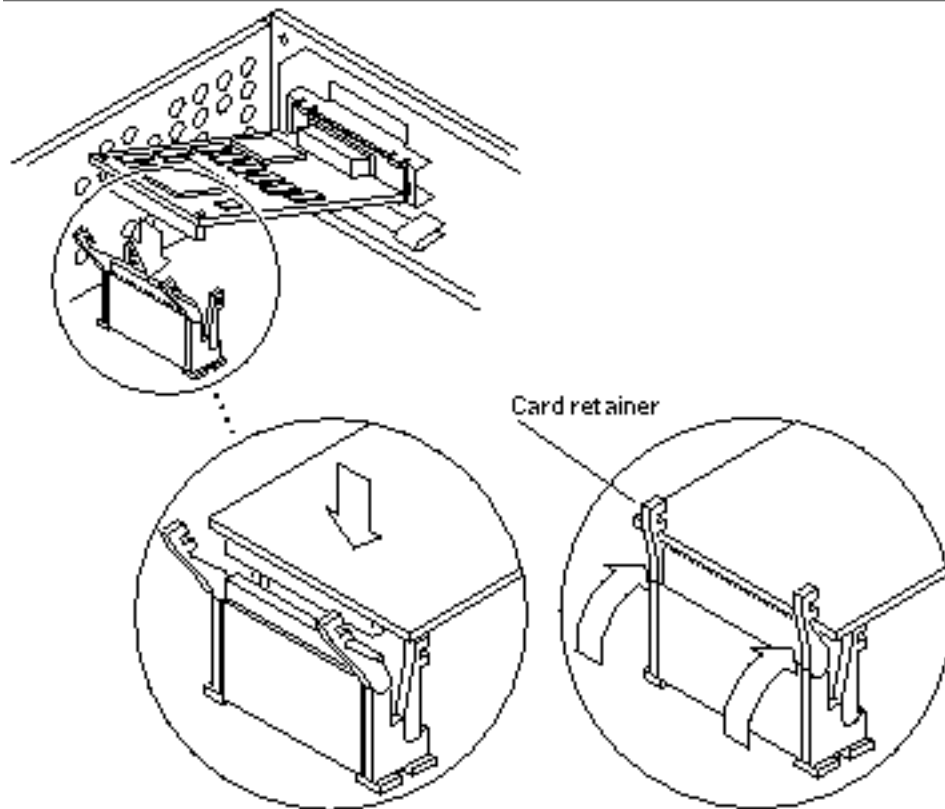
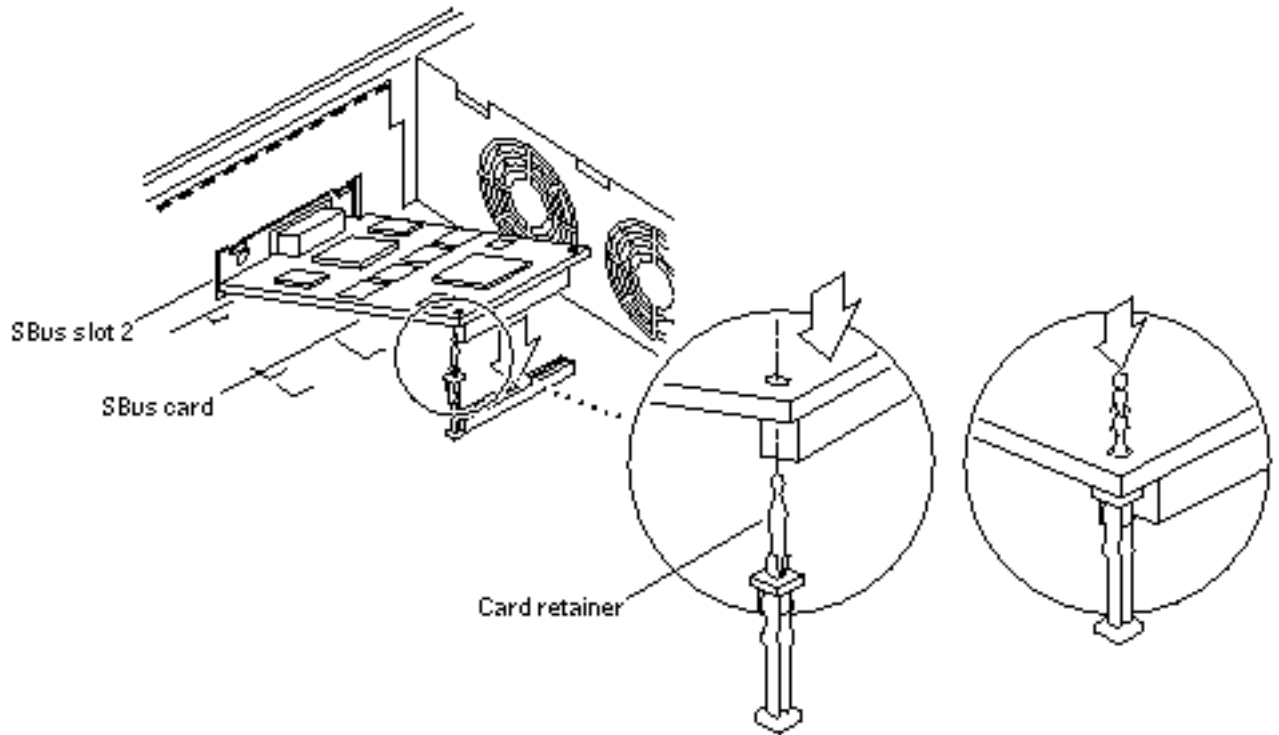

Figure 10-15 Lock in the SBus Card Retainers, SBus Slots 0 or 1
Figure 10-16 Lock in the SBus Card Retainer, SBus Slot 2
Do not force the card, or you may damage the pins on the card. If the SBus card is located in SBus slot 0 or 1, see Figure 10-15. If the SBus card is located in SBus slot 2, see Figure 10-16.
- If the SBus card is located in SBus slot 0 or 1, push the rear card retainers forward over the edge of the SBus card. See Figure 10-15.
See Figure 10-16. There is only one card retainer for the SBus slot 2.